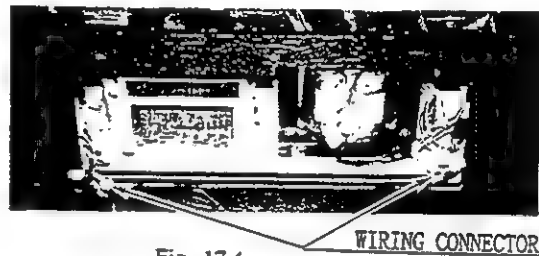

Fig. 17.4
- ③ Disconnect all of the Power Supply Unit related wiring Connectors (Fig. 17.4).